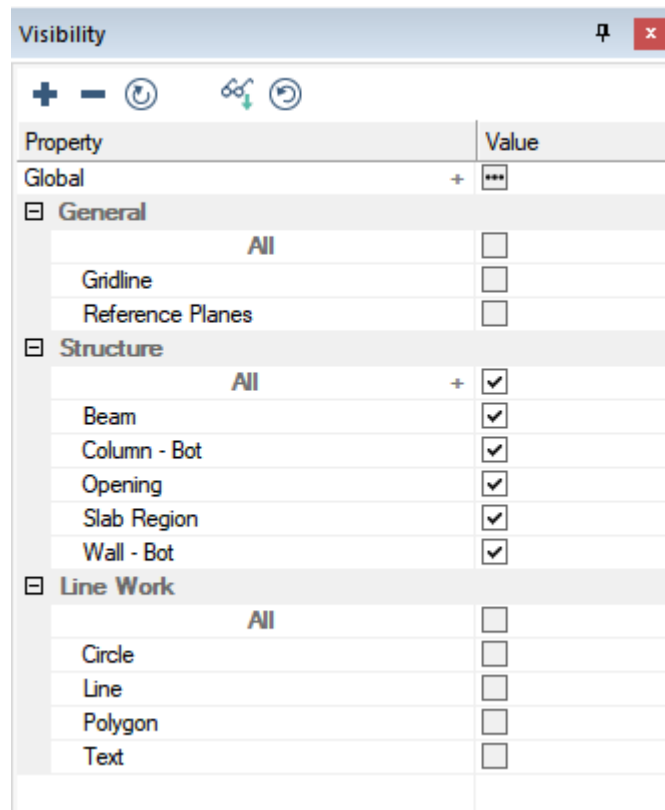

FIGURE 3-22
- On the *Visibility Grid*, click the check box to the left of All under the Structure section of the visibility grid. All structural components will be checked as shown in **FIGURE 3-22**.